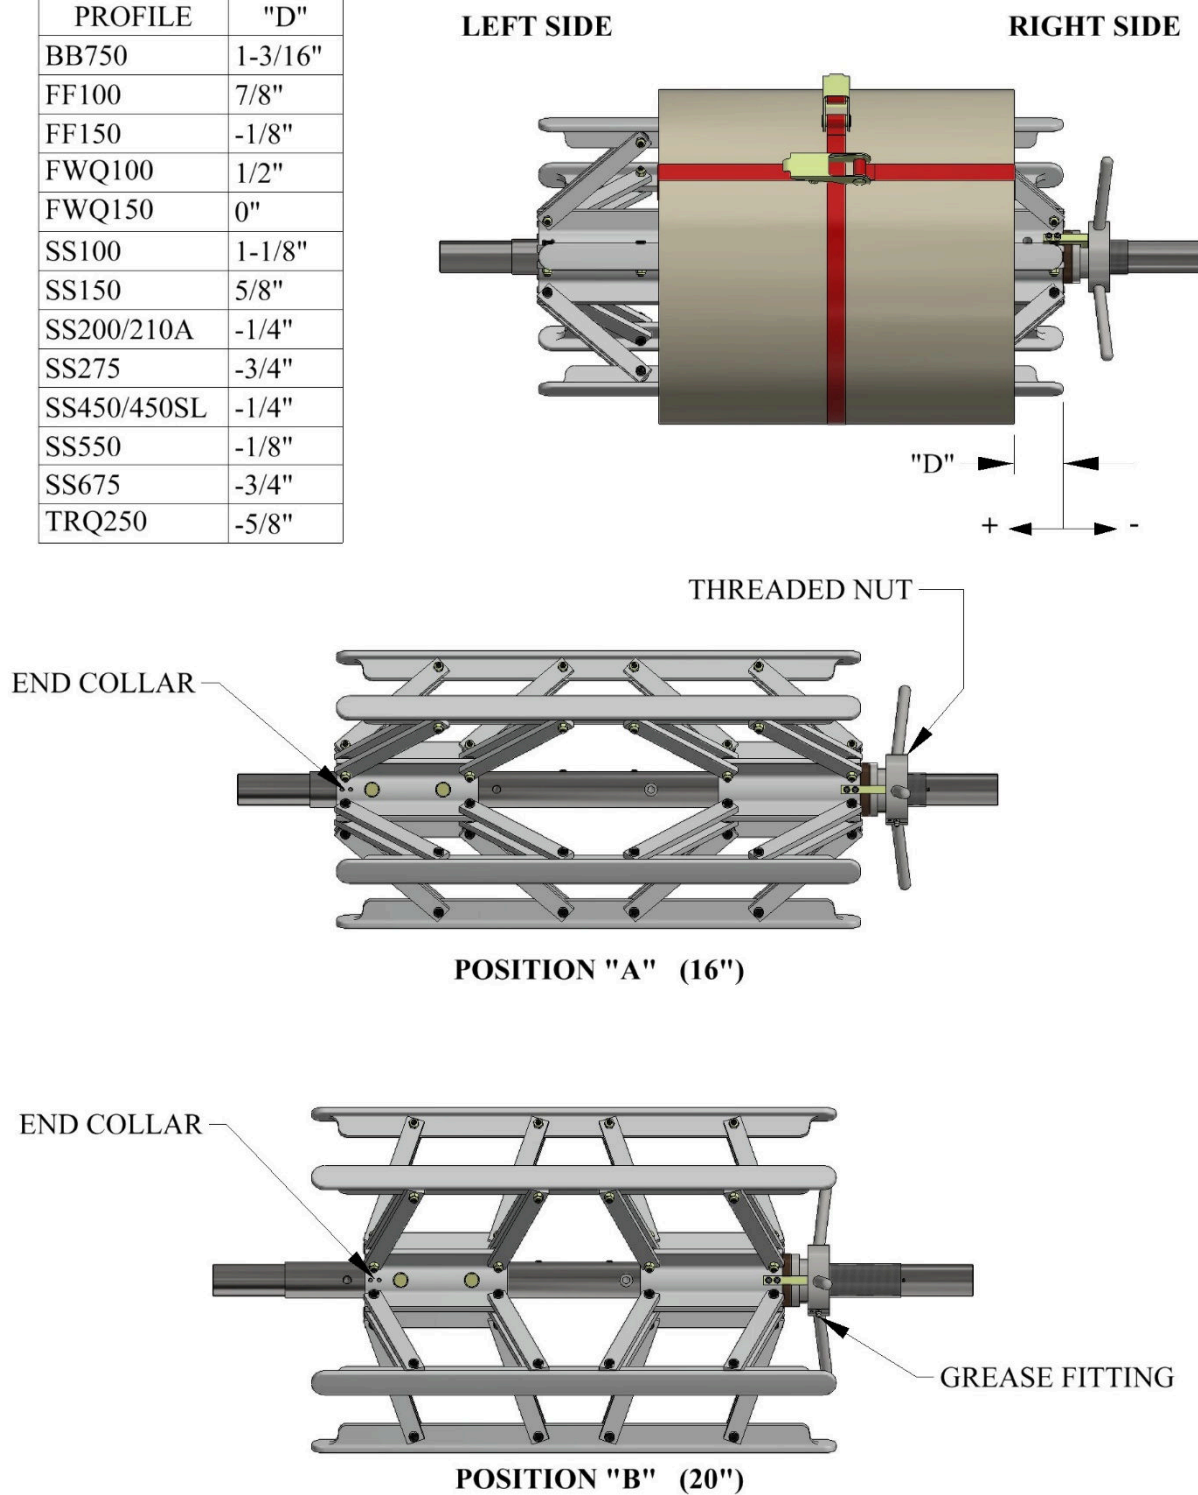

Figure 16: Expandable Arbor Set-Up
(Figure 16)
4. Using the Reel Set Up Chart, (Figure 16), find the “D” dimension that corresponds to the profile being used. The negative values indicate that the coil should extend past the end of the rails by the amount shown.
5. Before transporting the loaded Expandable Arbor, the coil should be secured around the outside edges through the inside diameter using a strap, rope, etc. to prevent the coil from telescoping (Figure 16).